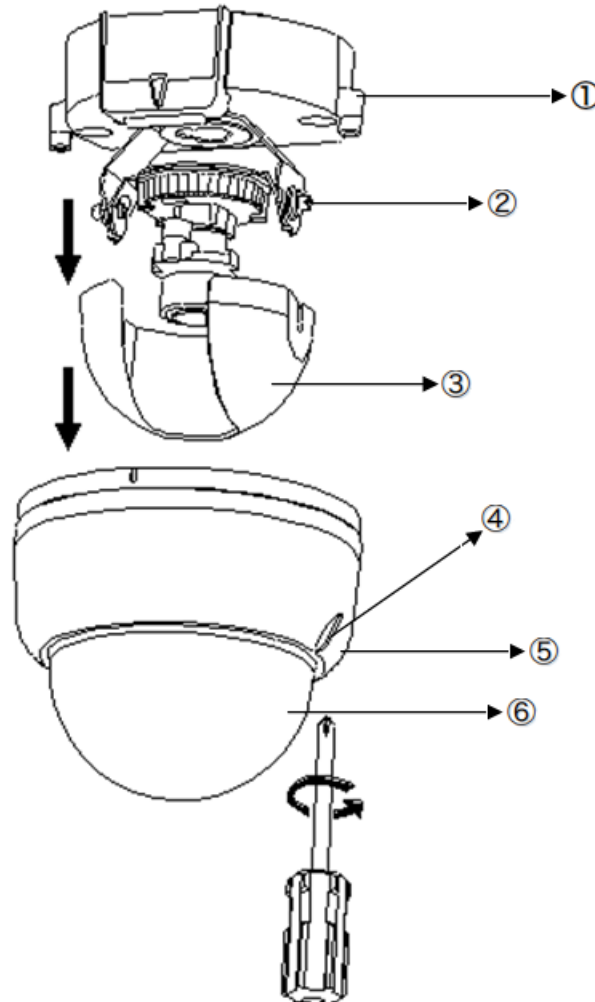

FIGURE 2-1: DISASSEMBLING THE CAMERA
Please refer to the figure 2-1 for pictorial index. Gently press the button to take off camera off camera housing (4). Remove the inner liner (3) by gently pulling it free of the two notches (2) in the housing. Set the camera a housing (5) and inner liner (3) aside.